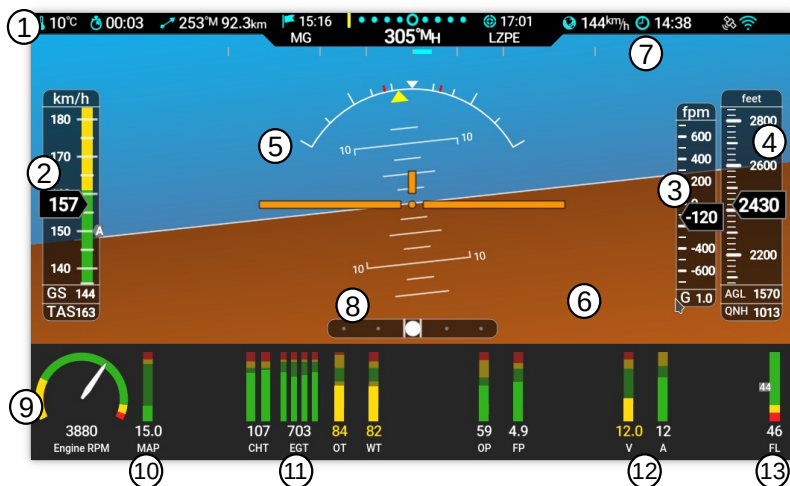

Figure 5: Illustration of the PFD/EMS screen with horizontal layout.
- ① Status bar. Please refer to section 3.4 on page 18 for more details.
- ② Airspeed tape. Indicated airspeed is shown in a form of moving tape. Current IAS value is emphasised. ground speed and true air speed are available at the bottom of the tape. In addition, various V speeds are also shown in the form of small tags.
- ③ Vertical speed scale.
- ④ Altitude tape. A height above ground level (AGL) and current QNH value are shown at the bottom.
- ⑤ Attitude indication of pitch and roll. Roll scale has dash markings at 10, 20, 30 (long), 45, 60 (long) degrees. Figure 5 shows situation at 45 degree roll. Long pitch scale line has number at side, medium line refers to a 5 degree step and short line is 2.5 degree step.
- ⑥ Relative wind indication. Wind direction and speed are shown below¹.
- ⑦ Heading rate indication.
- ⑧ Slip indication.
- ⑨ Engine parameter in the shape of round arc.
- ⑩ Single value engine parameter in the shape of vertical bar and a value below.
- ⑪ Multi value engine parameter in the shape of vertical bar. The highest value is shown below.
- ⑫ Trim position.
- ⑬ Fuel tank combination. Left and right tank and sum of both below.